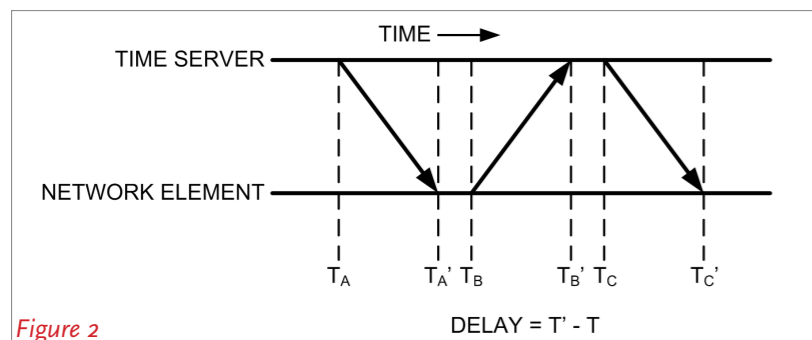

Figure 2
**deterministic way from a master clock which is chosen via the Best Master Clock (BMC) algorithm. Once the master clock is known within the domain, nodes calculate the offset from the master by a series of exchanges with the master clock (see figure 2).**